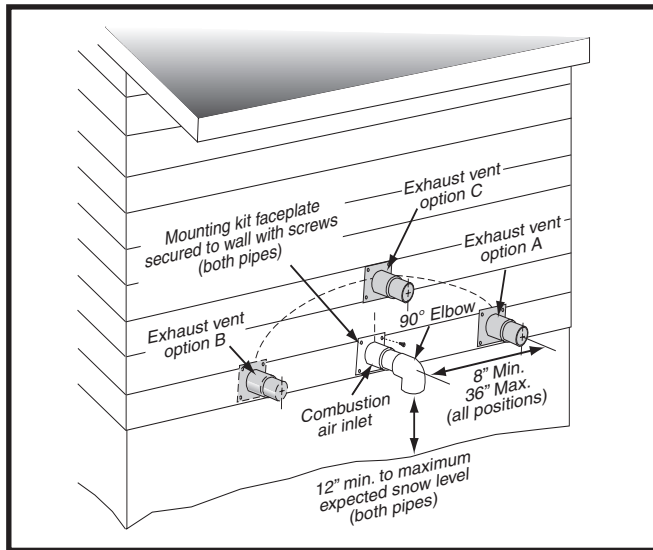
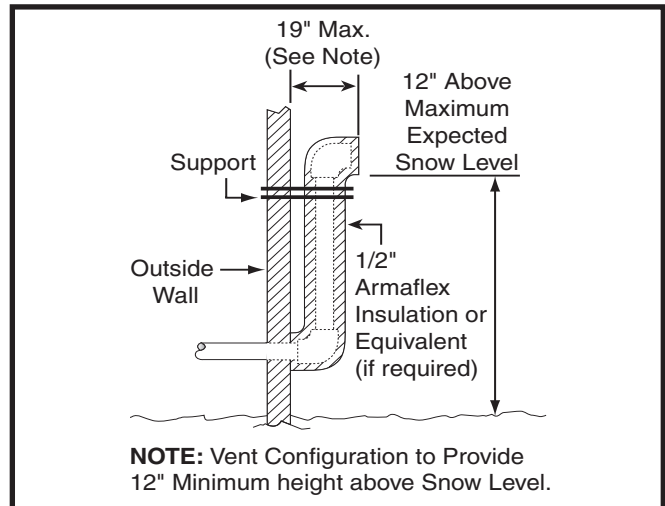
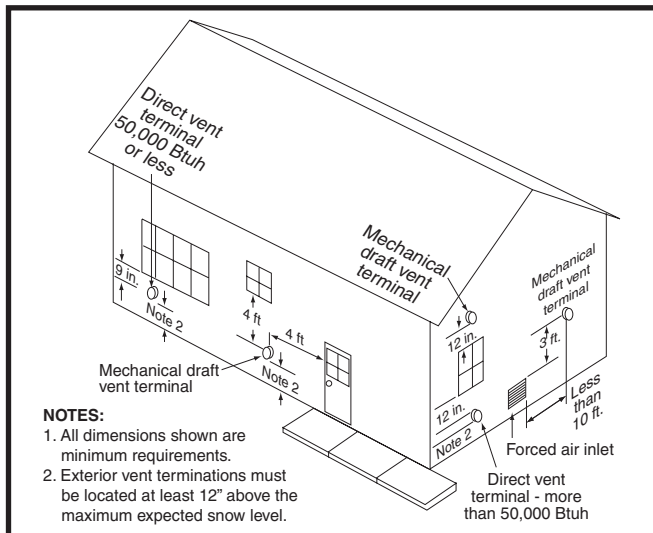
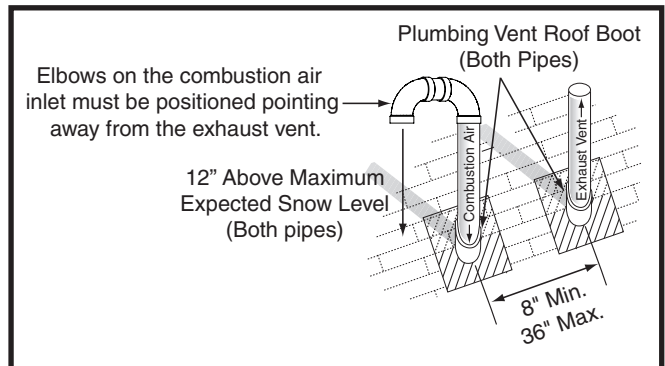

Figure 7. Inlet & Exhaust Pipe Clearances
Figure 9. Alternate Horizontal Vent Installation
Figure 8. Vent Locations
Figure 10. Vertical Vent Termination
- If a Direct Vent (2-pipe) system is used, the combustion air intake and the vent exhaust must be located in the same atmospheric pressure zone. This means both pipes must exit the building through the same portion of exterior wall or roof as shown in Figure 7, Figure 8, Figure 9, & Figure 10 (page 10).
- Vent and combustion air intake terminations shall be installed as depicted in Figure 7 & Figure 8 and in accordance with these instructions:
- All minimum clearances must be maintained to protect building materials from degradation by moisture content in flue gases. When wall venting on surfaces that could be affected by this moisture, it is recommended that a corrosion resistant shield be used behind the vent terminal. Adequately seal or caulk all joints, cracks, and seams around the vent terminal. See Figure 7.
- When the vent pipe must exit an exterior wall close to the grade or expected snow level where it is not possible to obtain clearances shown in Figure 7 (page 10), a riser may
be provided as shown in Figure 9 \(page 10\). Insulation is required to prevent freezing of this section of pipe. See Table 3 for vent freezing protection.
Termination spacing requirements from the roof and from each other are shown in Figure 10. The roof penetration must be properly flashed and waterproofed with a plumbing roof boot or equivalent flashing. Vent and combustion air piping may be installed in an existing chimney which is not in use provided that:
- The termination clearances shown in Figure 10 are maintained.